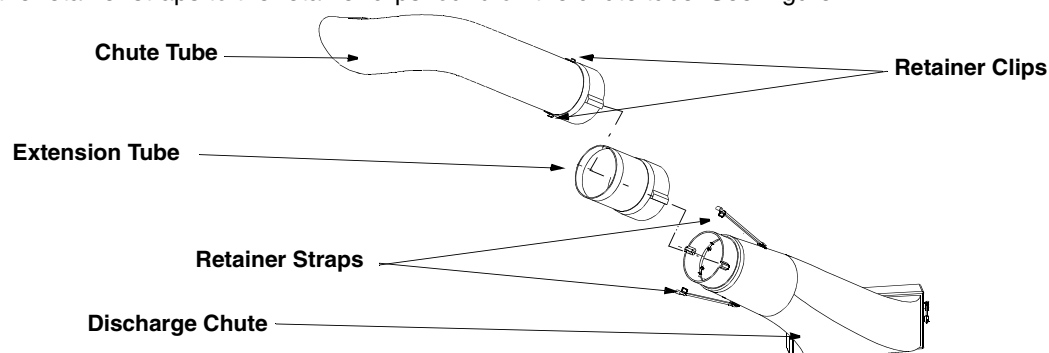

Figure 2
- Attach the extension tube included in this kit to the top of the bagger discharge chute. Secure it in place by attaching the retainer straps to the retainer clips found on the chute tube. See Figure 2.